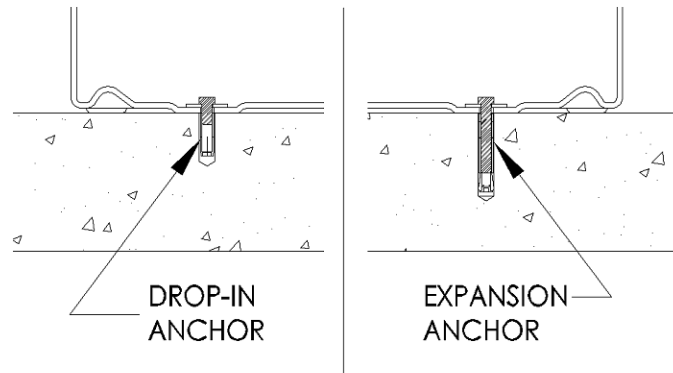

Figure 1
- Poured concrete: Use drop-in type wedge anchors made for 3/8" hex head bolts, or use a sleeve type expansion anchor. (See Figure 1)